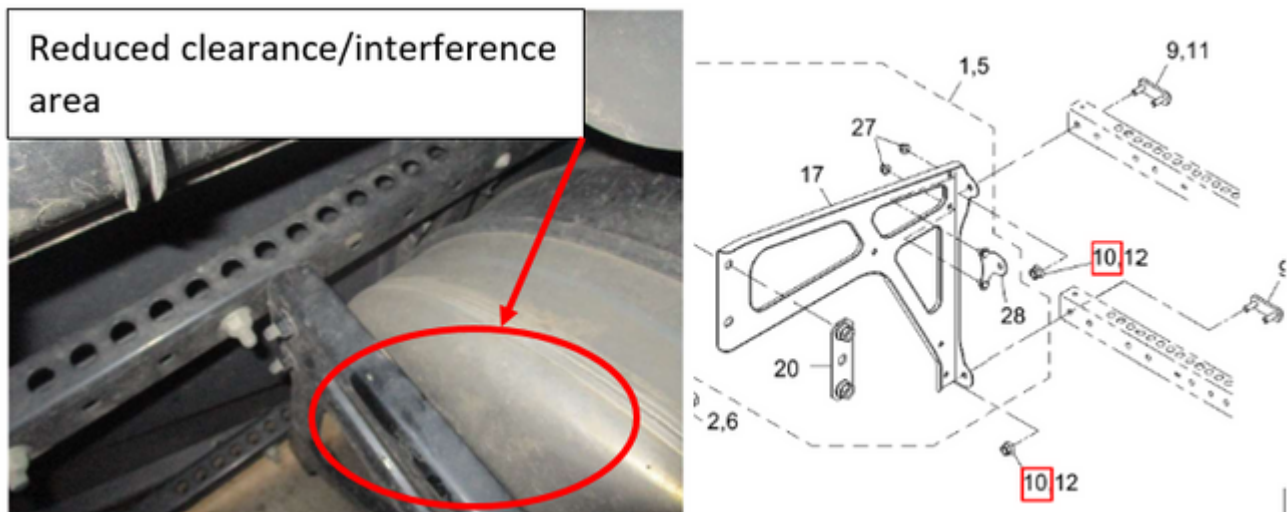

Figure 4. Reduced Clearance/Interference at the Fairing Rail Bracket mounting area.
b) To increase clearance/interference at the Fairing Rail Bracket area, shown in Figure 4: